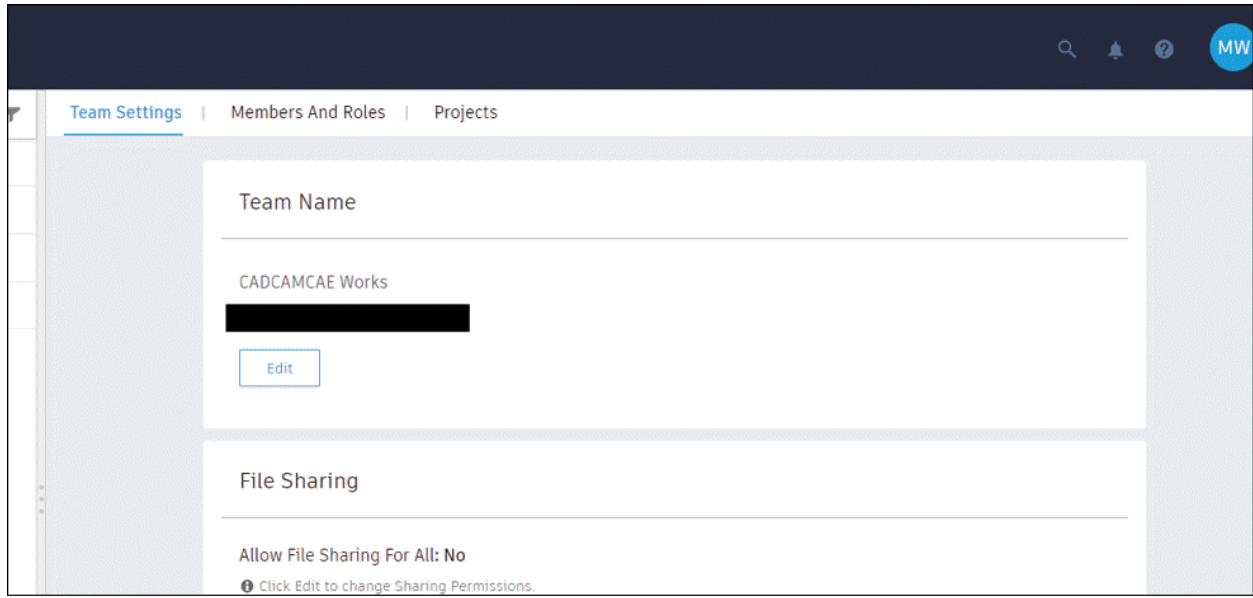

Figure-109. Administration page for team
- Click on the **Open Administrator Console on the Web** button (similar to common settings button icon) displayed next to name of the team. The administration page for team will be displayed in the default web browser; refer to Figure-109.